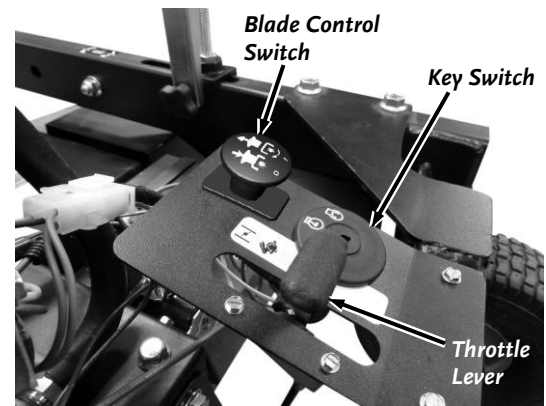

Figure 26
4. Make sure the Blade Control Switch is pushed down to the disengaged position (**Figure 26**).
1. Ensure the Blade Control Switch is down (**Figure 26**).
2. When starting a cold Engine, push the Throttle Control Lever up to the Choke  position (**Figure 26**). When starting an already warm Engine, push the Throttle Control Lever to the Run  position.
2. Move the Throttle Control Lever all the way down to the Idle  position and turn the Key to Stop  (**Figure 26**).
1. Push down on the Blade Control Switch (**Figure 26**).